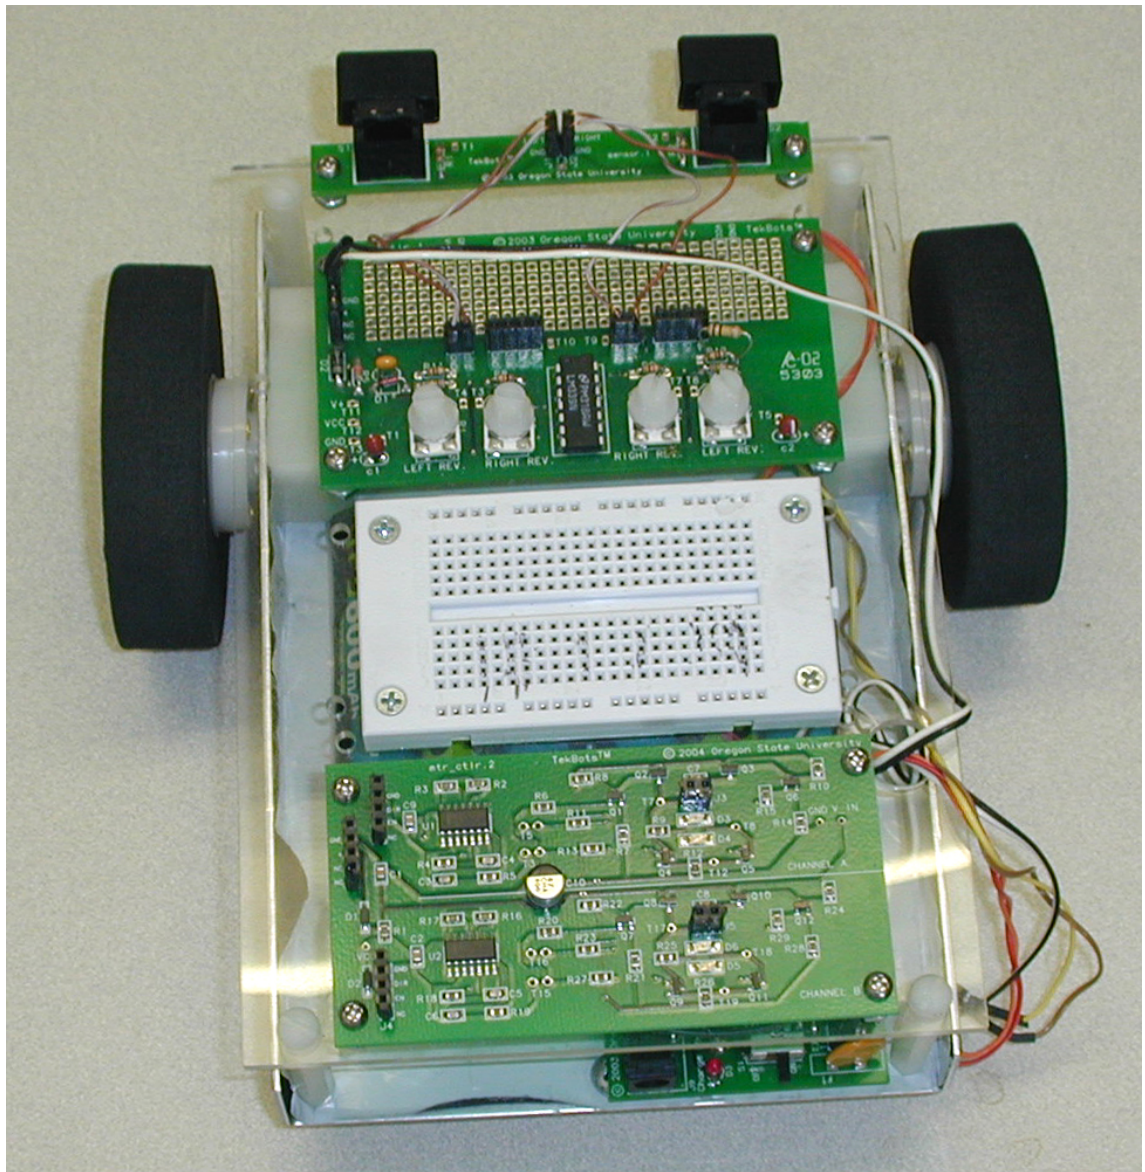

Figure 7. Motor Control Board and Breadboard
4. Now you can affix the breadboard to your robot. Use the 4-40 5/8" metal machine bolts, and force them through the holes in the breadboard. This then attaches to the Plexiglas layer in your kits. See Figure 7 for placement.
the Plexiglas. Figure 7 shows the placement of the breadboard and motor control board on the Plexiglas.